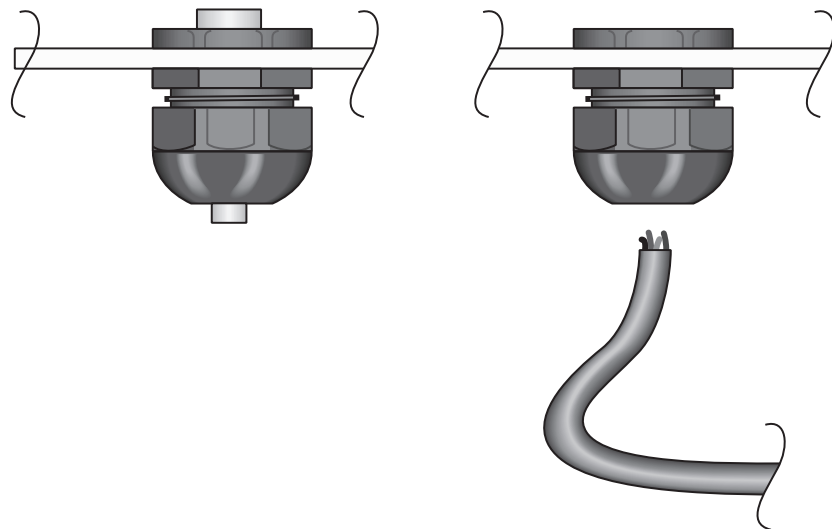

FIGURE 3-4. Cable inserted into compression fitting
3. Route each sensor and peripheral lead through a unique compression fitting (see FIGURE 3-4).
9. Rotate each compression fitting so that the fitting clamps tightly against the sensor cable to provide a water-tight seal (see FIGURE 3-4).